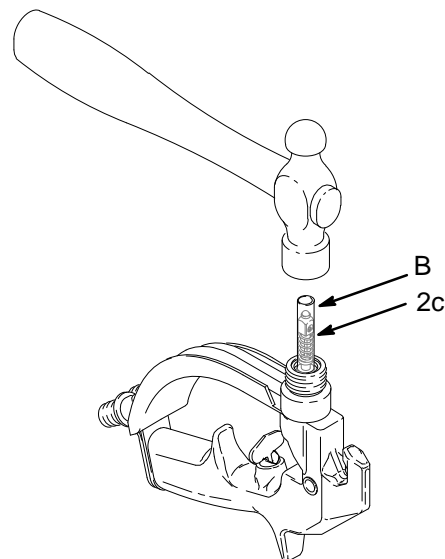

Fig. 8
7. Slide the rear of the needle (2c*) into the front of the gun. Slide the tool (B), provided with the repair kit, into the gun, around the needle. Lightly tap the tool with a hammer or lightly press the tool against a flat surface to seat the needle. See Fig. 8. Remove the tool.